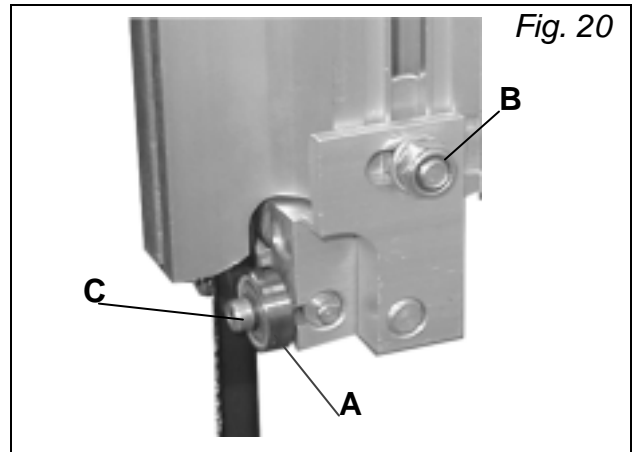

Fig. 20
To adjust the upper blade guides, first position the roller guides (A) *Fig.20* relative to the blade by slackening off the hex. nut (B) *Fig. 20* and moving the guide carrier until the roller guides (A) are approx. 2mm behind the gullets of the blade.